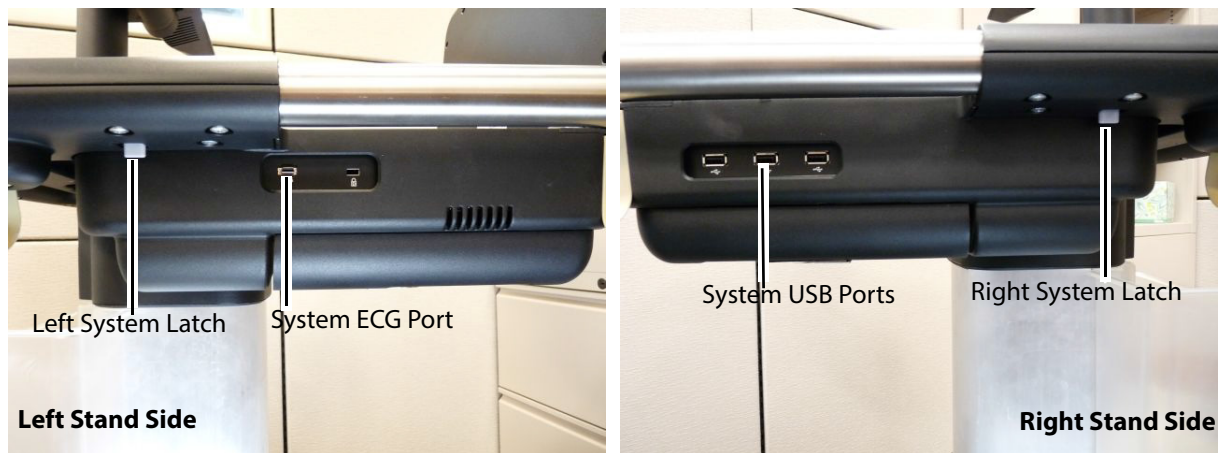

Figure 6.3 System Latch Release & Ports
- 1 Remove any USB devices connected into the right System/Stand side ports as well as the ECG cable connected to the left System/Stand side ports. Refer to Figure 6.3 on page 36.
- 3 Locate the two gray latch levers under the right and left side stand top platform near where the black metal mates to the shiny metal handle. Refer to Figure 6.3 on page 36.
- 2 Remove the X-Porte System (“Engine”) following the steps in the System (“Engine”) Removal section below and refer to Figure 6.3 on page 36.
- 2 Remove the X-Porte System ("Engine") from the Stand using steps 1-5 under the System section of this chapter. Refer to Figure 6.3 on page 36